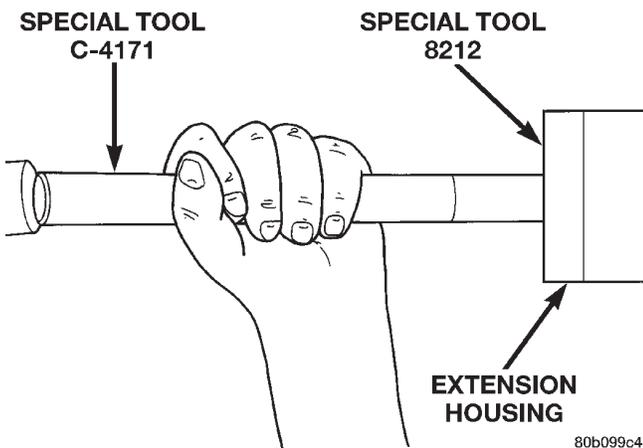

Fig. 13 Install Extension Housing Seal 80b099c4
- (1) Clean seal bore of extension housing of any residual sealer material from original seal.
- (2) Using Tool Handle C-4171 and Seal Installer 8212, install new extension housing seal so that the seal is located 0 ± 0.5 mm (0 ± 0.02 in.) to the face of the extension housing (Fig. 13).